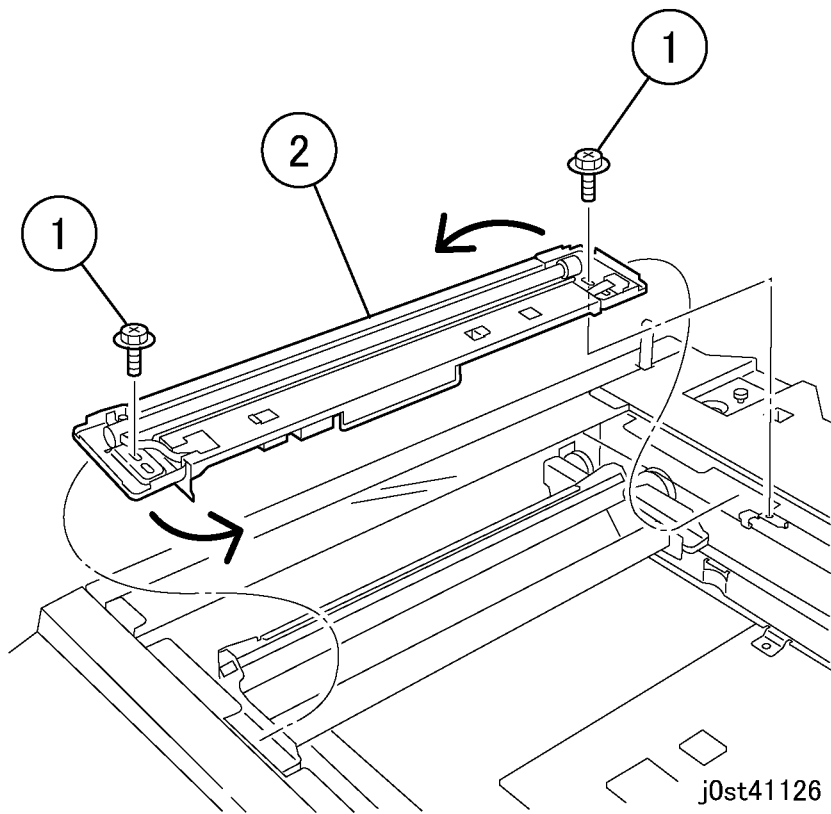

Figure 5 Removing the Full Rate Carriage (j0st41126)
3. Remove the Full Rate Carriage. (Figure 5)